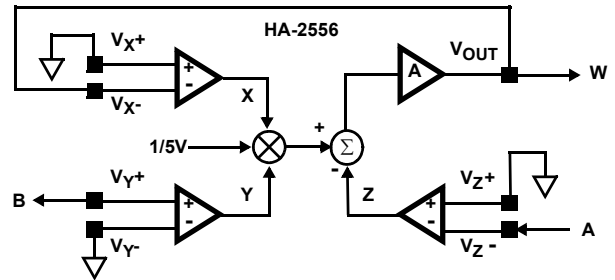

FIGURE 3. DIVIDER
Notice that the output (W) enters the equation in the feedback to the Z stage. The Balance Equation does not test for stability, so remember that you must provide negative feedback. In the multiplier configuration, the feedback path is connected to V_{Z+} input, not V_{Z-}. This is due to the inversion that takes place at the summing node just prior to the output amplifier. Feedback is not restricted to the Z stage, other feedback paths are possible as in the Divider Configuration shown in Figure 3.